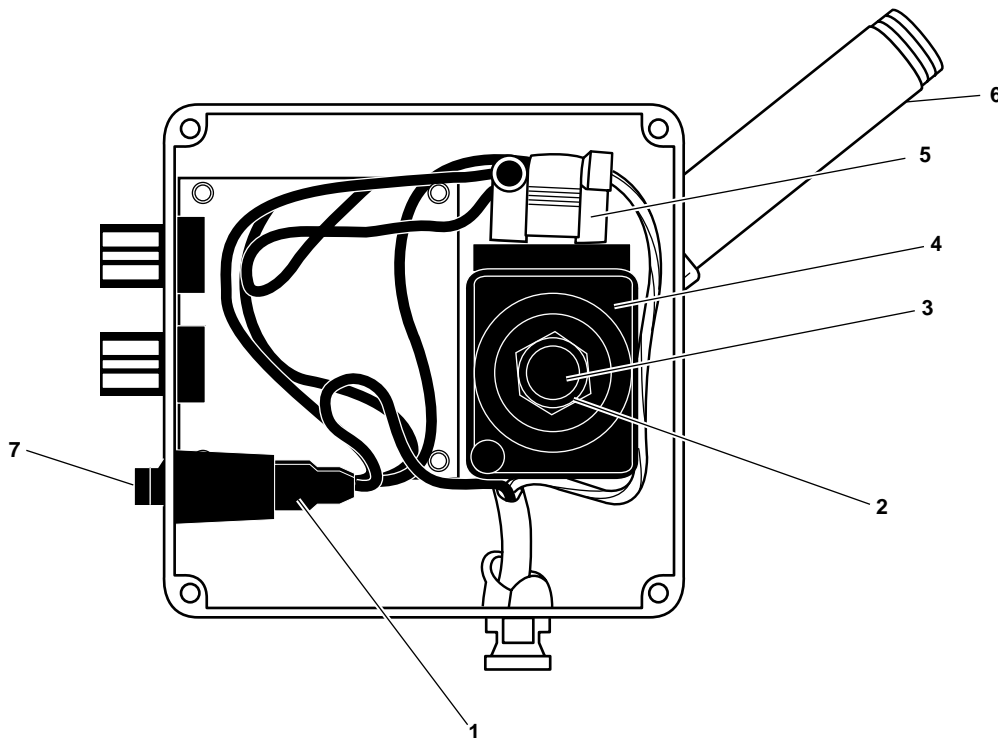
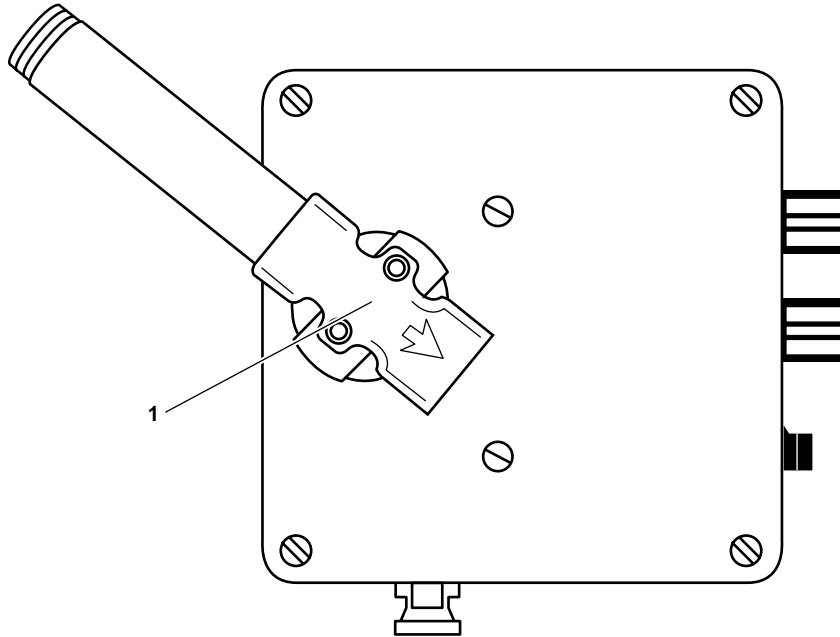

Figure 2. Automatic Drain Valve Components
Figure 3. Drain Valve Assembly
2. Use a multimeter to check for available voltage at the power terminals (figure 2, item 1). If voltage is present, ensure that the proper circuit breaker is OFF, locked out, and tagged out (FM 55-502). If no voltage is present, continue with the procedure.
3. Remove the nut (figure 2, item 2) that retains the solenoid (figure 2, item 3) to the coil (figure 2, item 4).
4. Remove the solenoid (figure 2, item 3), observing the direction of flow indicated on the solenoid (figure 2, item 3) so that it can be reassembled in the same direction.
5. Remove the wiring (figure 2, item 5) from the coil (figure 2, item 4).
6. Remove the drain pipe (figure 2, item 6) from the drain valve assembly (figure 3, item 1).
7. Inspect the drain valve assembly (figure 3, item 1) and remove any foreign material.
8. If damage to the drain valve assembly (figure 3, item 1) is found, replace the drain valve assembly (WP 0017 00). If no damage is noted, continue with the procedure.
1. Install the drain pipe (figure 2, item 6) into the drain valve assembly (figure 3, item 1).
2. Install the wiring (figure 2, item 5) to the coil (figure 2, item 4).
3. Install the solenoid (figure 2, item 3), observing the flow direction noted during disassembly.
4. Secure the solenoid coil (figure 2, item 4) to the solenoid (figure 2, item 3) with the nut (figure 2, item 2).
Drain Valve (Item 4, Figure 3, WP 0031 00)